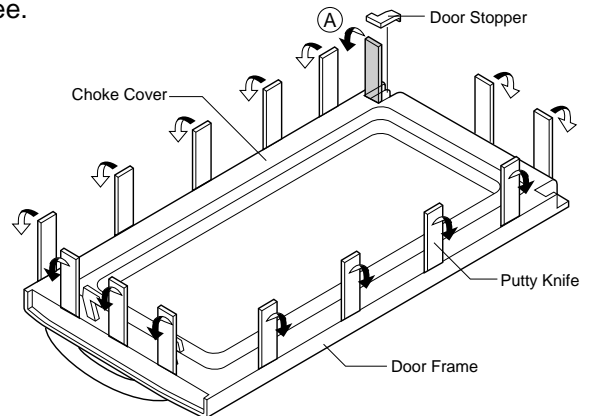

Figure C-3. Door Disassembly
- Insert a putty knife (thickness of about 0.5mm) into the gap (A) between the door stopper and the choke cover as shown in Figure C-3 to free engaging parts.
7. Insert a putty knife (thickness of about 0.5mm) into the gap (A) between the choke cover and door stopper and between the choke cover and the door frame as shown Figure C-3 to free engaging parts.
8. Pry the principles of the lever and lift up the choke cover by inserting a putty knife in order shown in Figure C-3.